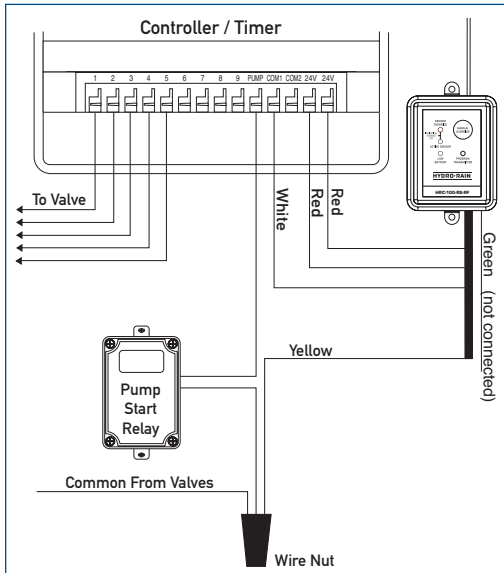

Figure 5: Wiring sprinkler timer with booster pump without sensor terminals
3. Disconnect the common valve wire(s) from the timer and the common wire lead of the relay that starts the pump from the common terminal of the timer. Attach them to the yellow (normal closed) wire from the receiver, using a wire nut. (See Figure 5).
5. Connect the (2) red “24V” wires to the 24V terminals of the timer.